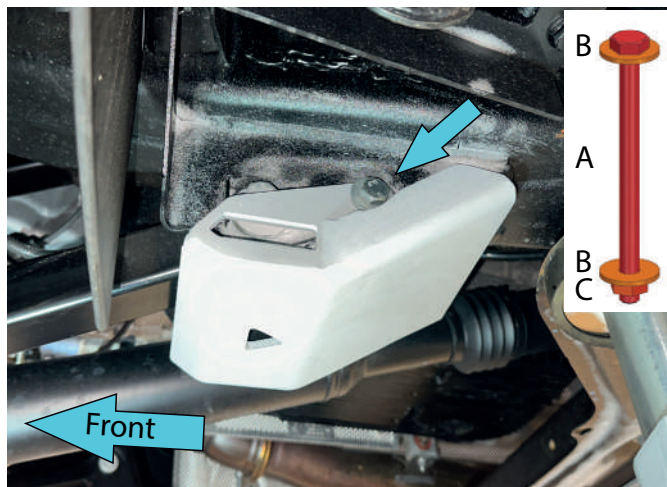

Fig. 3
3. Install the front control arm skid plates (items 3&4) using M10x140 bolts, M10 washers and M10 nuts (items A,B,C) (Fig. 3).